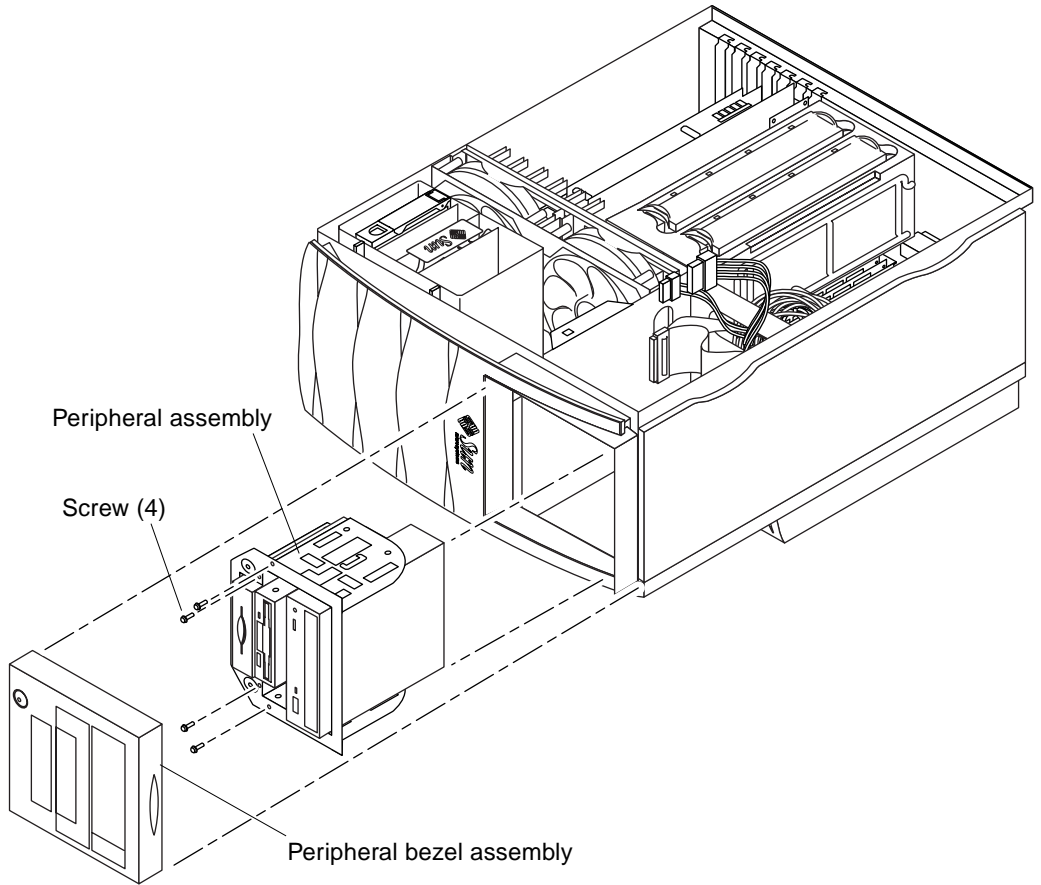

FIGURE 7-2 Removing and Replacing the Peripheral Assembly
2. **Remove the peripheral bezel assembly by pressing down on the top of the bezel and pulling it straight out from the chassis (FIGURE 7-2).**
1. Position the peripheral assembly in the chassis (FIGURE 7-2 on page 7-5).